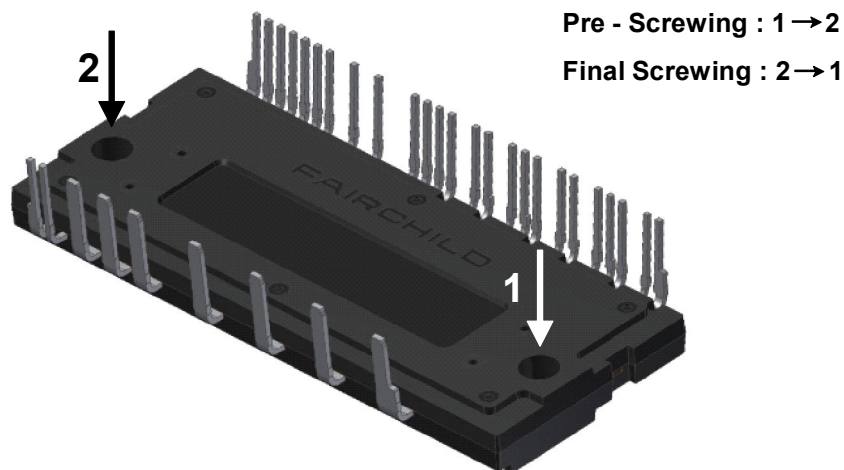

Figure 10. Mounting Screws Torque Order
13. Avoid one-sided tightening stress. Figure 10 shows the recommended torque order for the mounting screws. Uneven mounting can cause the DBC substrate of package to be damaged. The pre-screwing torque is set to 20 ~ 30% of maximum torque rating.